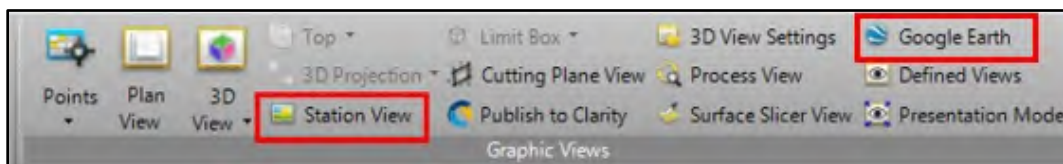

Figure 12.—Graphic Views toolbar within the “View” tab on the ribbon.
- If any panorama photographs were taken while in the field, they can be displayed under the “Station View” button in the “Graphic Views” toolbar within the “View” tab on the ribbon (figure 12). While it is presumed that further capabilities exist with the panoramic photographs, they are unknown at this time.
- Users can view their data in Google Earth while post-processing it (figure 12).